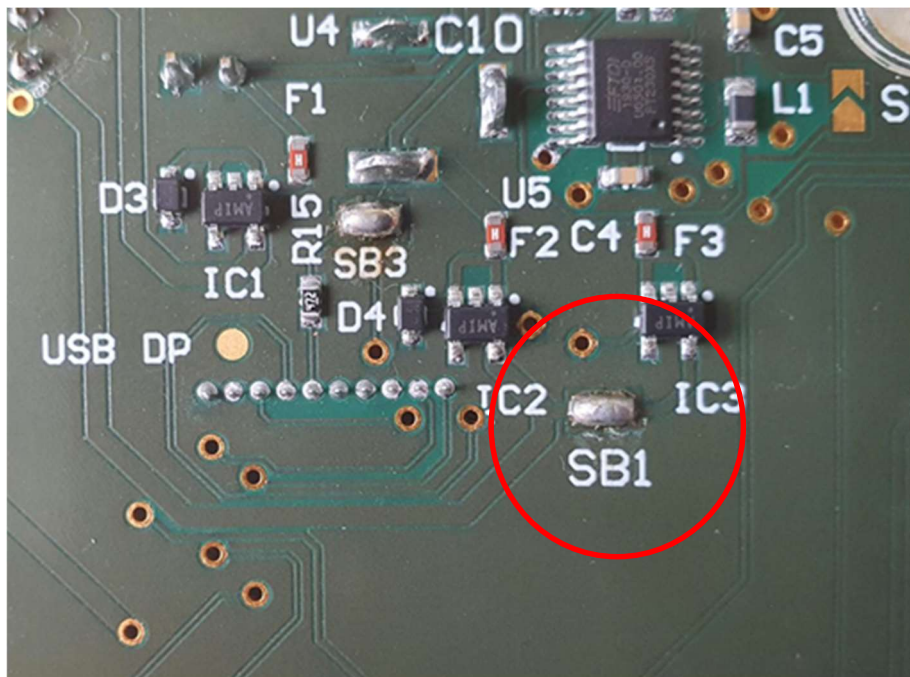

Figure 5: solder applied to solder bridge “SB1” to enable power over USB
- Apply solder to the solder bridge designated “SB1” on the underside of the motherboard, as per Figure 5.